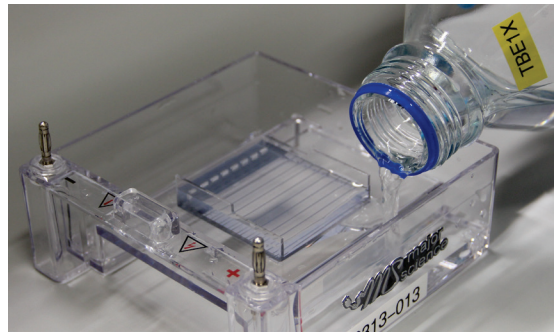

Fig. 4
3. Pour TBE buffer into the tank until the gel is completely covered (Fig. 4).